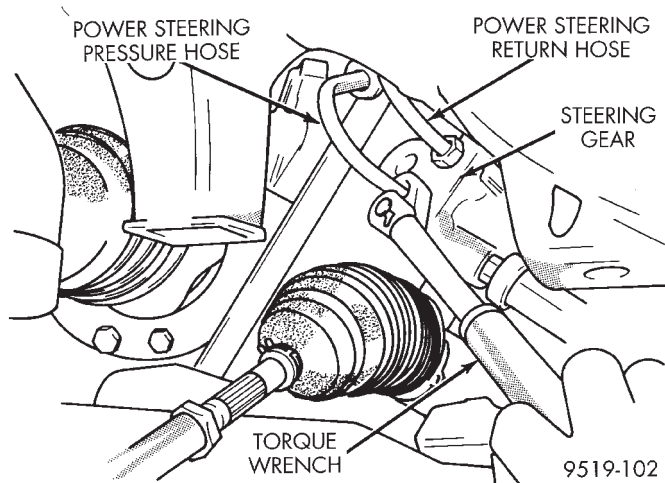

Fig. 44 Torquing Power Steering Fluid Hose/Tube Nuts
(4) Install the power steering fluid return hose on the steering gear. Then using a crow foot and torque wrench (Fig. 44) tighten the tube nut to a torque of 31 N·m (275 in. lbs.).